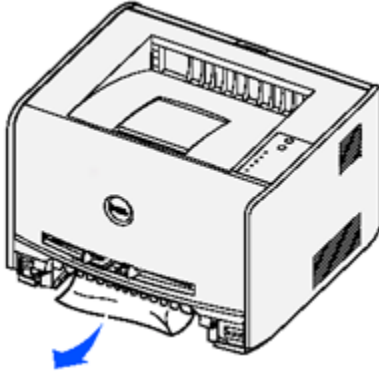

Figure 1: Remove the Paper Tray
2. If you are feeding paper from a tray, remove the tray, and then remove any jams (**Figure 1**).